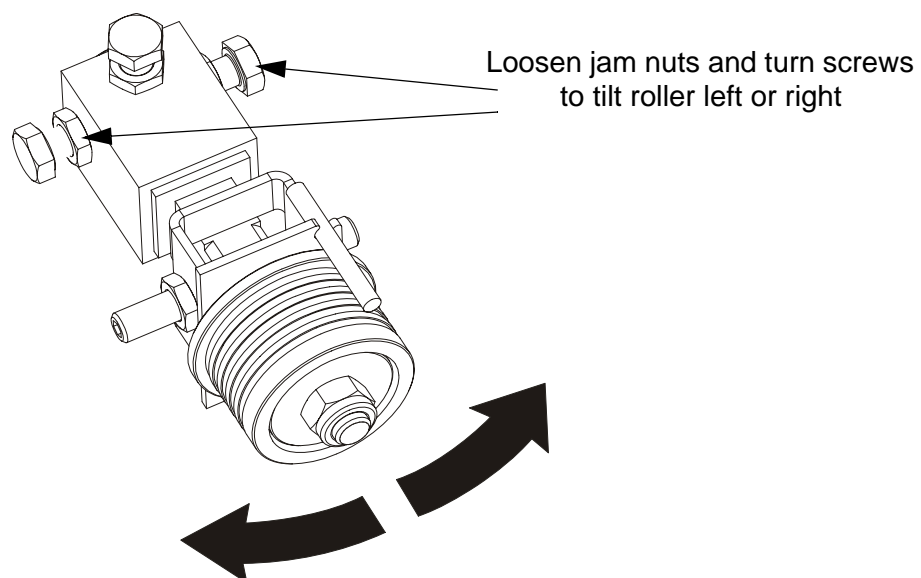

FIG. 6-28
**See Figure 6-28.** Loosen the jam nuts on the left and right horizontal tilt adjustment screws. To tilt the roller left, loosen the right screw and tighten the left screw. To tilt the roller right, loosen the left screw and tighten the right screw. Tighten the jam nuts and recheck the tilt of the blade.